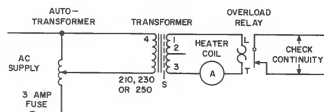

Fig. 38 — Test Circuit for Checking Overload Relays
- (1) This procedure applies for the test requirement of single-phase starters and 3-phase starters having a full-load motor current of 25 amperes or less, or a full-load motor current greater than 25 amperes but employing a current transformer in association with the overload relay.
- (2) Open the ac supply at the switch and fuse unit by removing fuses or opening the motor circuit disconnect switch. Where current in excess of the output rating of the autotransformer is required, a transformer should be added as shown in Fig. 38. If the 352AL transformer is used, terminals 1 and 3 are connected to the L and T terminals of the overload relay; terminals 4 and 210, 230, or 250, depending on line voltage, are connected to the output of the autotransformer. With the above arrangement, current up to 62-1/2 amperes at 2.5 volts ac can be obtained by manipulation of the autotransformer. With the test autotransformer, adjust the current to the required value.
- (3) If no current flows when voltage is applied with the autotransformer, replace the heater coil. If a nonadjustable relay does not operate within 5 minutes, replace the relay. If an adjustable relay does not operate within 5 minutes, readjust the relay as covered